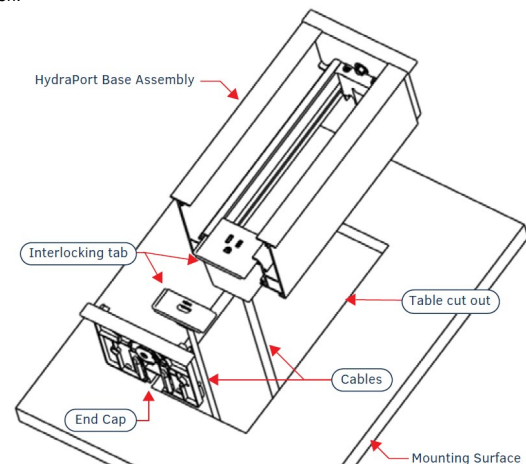

FIG. 2 Inserting the Modules to HydraPort Base Assembly
- For terminations for which the far end of the cable is not accessible (either because the cable has been run under carpet, in a conduit or structure, or is otherwise fixed), the cable must be placed through the cutout in the table prior to installation, as indicated in FIG. 2.
Note the orientation of each HydraPort Module - a small tab exists on one side of the faceplate of each module that fits tongue-in-groove into the next module. Ensure all tabs are facing the same direction (see FIG. 2).